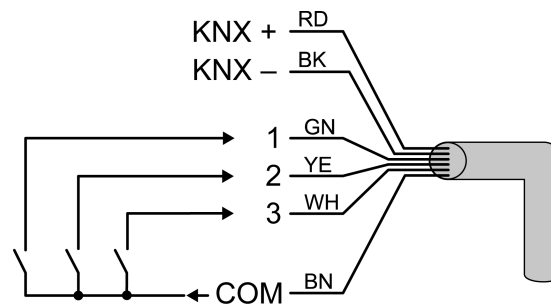

Figure 5: Connection of the extension inputs
- If necessary, connect potential-free contacts to the inputs (Figure 5).